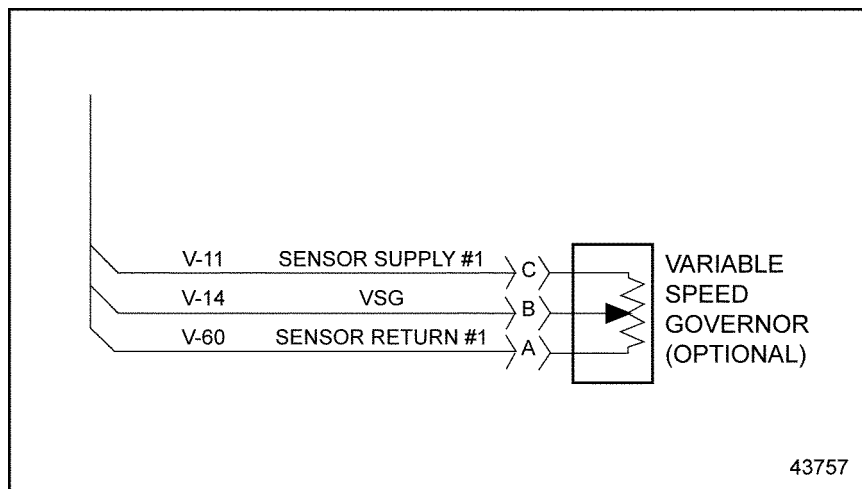

Figure 20-1 Variable Speed Governor Circuit
2. Install a jumper wire between sockets V-14 and V-11 of the VIH connector. See Figure 20-1.
2. Inspect the terminals at the hand throttle sensor connectors (sensor side and harness side) for bent, corroded and unseated pins or sockets. See Figure 20-1.